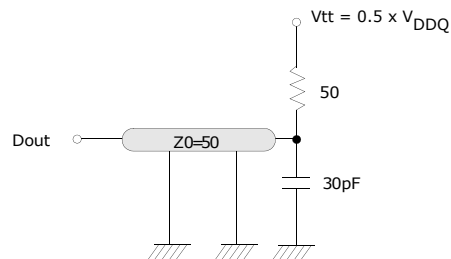

Figure 11.34. Output Load
- Output load (See Figure 11.34): $CL=50pF$